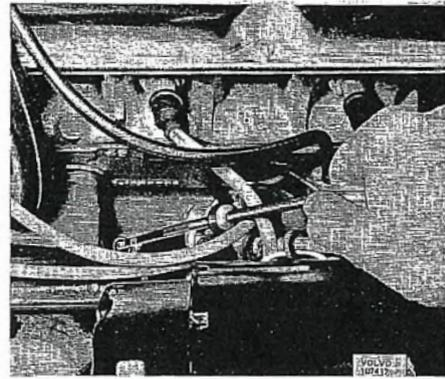

Fig. 1-15. Oil dipstick
The oil level is checked with the dipstick, see Fig. 1-15.
1. Check that oil level in engine is between "Max" and "MIN" marks on dipstick (see Fig. 1-15).